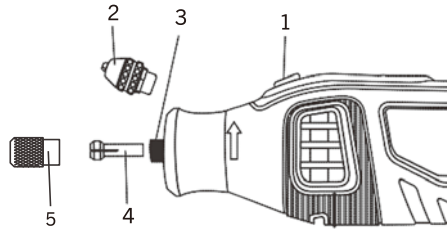
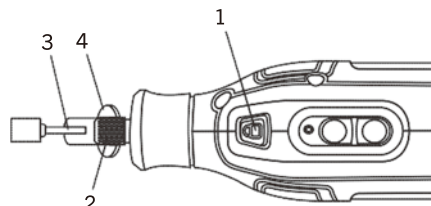

Fig. 2
Fig. 3
2. Depress the spindle lock button (1) and slowly turn the 3-jaw chuck (2) until the spindle lock button locks the spindle (3) (Fig. 2).
4. Insert the appropriate sized collet (4) into the spindle and thread the collet nut (5) onto the spindle by turning it clockwise while holding the spindle lock button down.
- Depress the spindle lock button (1), and slowly turn the collet nut (2) until the spindle lock button locks the spindle in place (Fig. 3).
- b) The flex shaft can also be attached to the tool using a 1/8" collet and collet nut. Install the collet and collet nut as shown in Fig. 2.
To change the collet or to install an accessory bit in the flexible shaft, refer to the steps listed in the sections entitled "Removing the 3-jaw chuck and installing a collet" (Fig. 2) and "Installing accessory bit when using the collet system" (Fig. 3).